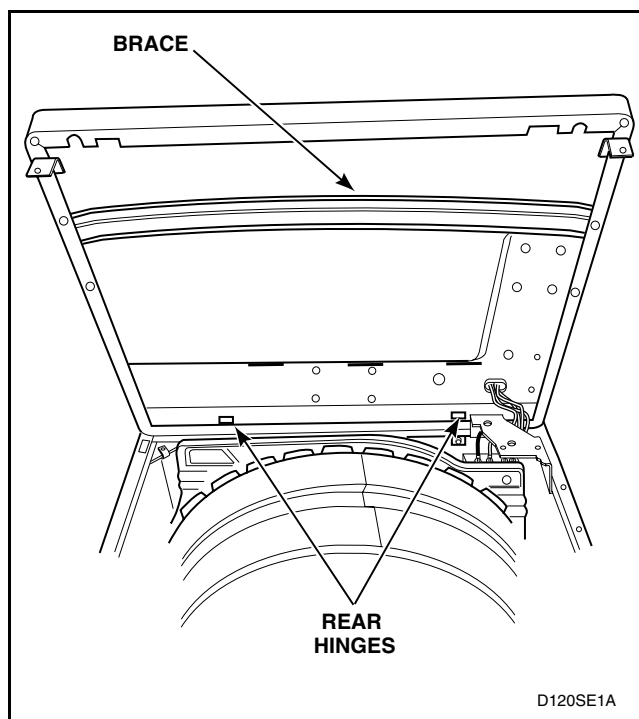

Figure 25
- n. Lift cabinet top to a vertical position by hinging it on the rear hinges. Refer to *Figure 25*.
- o. Carefully withdraw the wire harness through hole in cabinet top and lift the entire cabinet top assembly off the rear hinges. Refer to *Figure 25*.
- m. Lift cabinet top to a vertical position by hinging it on the rear hinges. Refer to *Figure 25*.
- n. Carefully withdraw wire harness through hole in cabinet top and lift the entire cabinet top assembly off the rear hinges. Refer to *Figure 25*.
- o. Carefully withdraw wire harness through hole in cabinet top and lift the top off the rear hinges with timer case attached. Refer to *Figure 25*.
- r. Remove brace from underside of cabinet top by swinging one end toward front or rear. Refer to *Figure 25*.
- o. Lift cabinet top to a vertical position by hinging it on the rear hinges. Refer to *Figure 25*.
- p. Carefully withdraw the wire harness through hole in cabinet top and lift the top off the rear hinges with meter case attached. Refer to *Figure 25*.